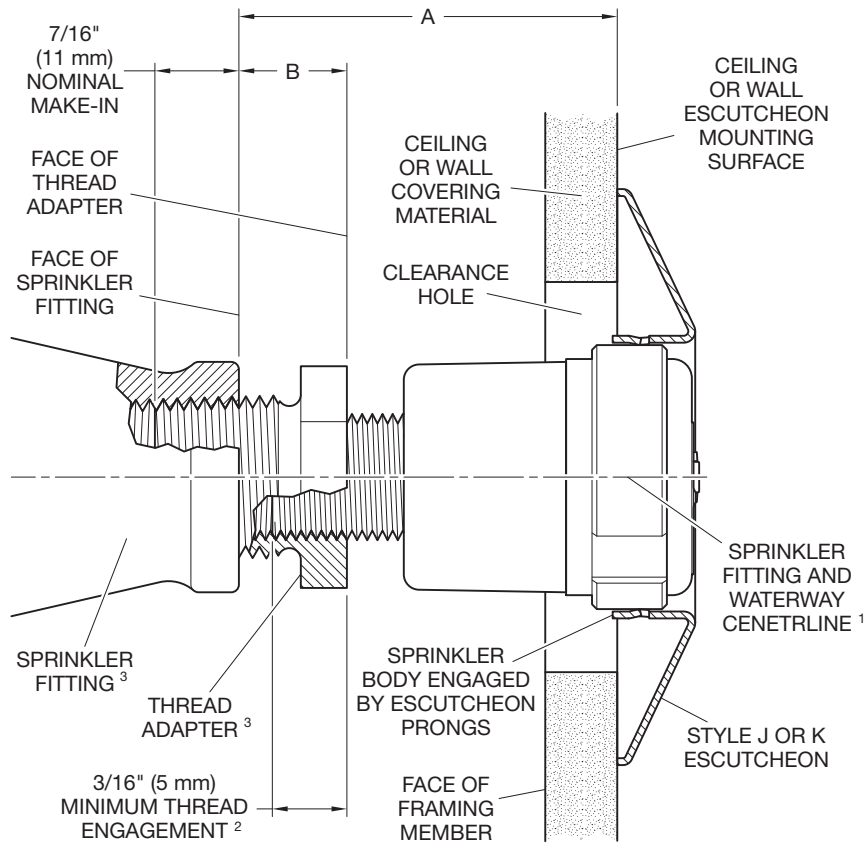

FIGURE 5
Step 2. Install sprinkler fitting with face located at proper distance from escutcheon mounting surface (Ref. Figures 5 or 6, Dim. A).